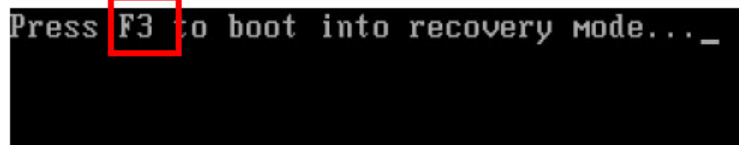

Figure B-10: Press F3 to Boot into Recovery Mode
**Step 1:** Turn on the system. When the following screen displays (**Figure B-10**), press the <F3> key to access the recovery tool. The message will display for 10 seconds, please press F3 before the system boots into the operating system.